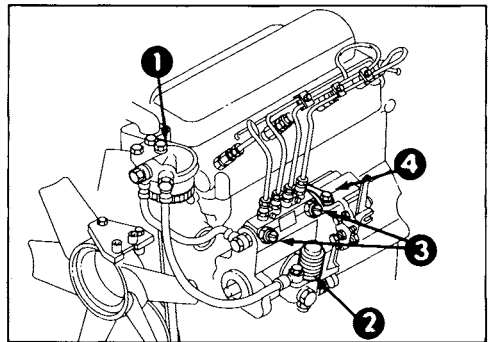

Figure 8
1. Loosen plug on top of fuel filter, loosen cap (approx. 2 times) on priming plunger, pump priming plunger until all air or bubbles are forced out of fuel filter. Tighten fuel filter plug during pressure stroke of priming plunger (Fig. 8).
2. Loosen the two air vent plugs on engine, pump priming plunger until all air or bubbles are forced out of system. Tighten air vent plugs on engine (Fig. 8).
NOTE: If ignition system fails to stop engine when key is turned to "OFF", diesel engine may be manually stopped by pushing injection pump lever forward, toward shut-off solenoid. Do not touch engine area around lever as it could be hot enough to cause a burn (Fig. 8).